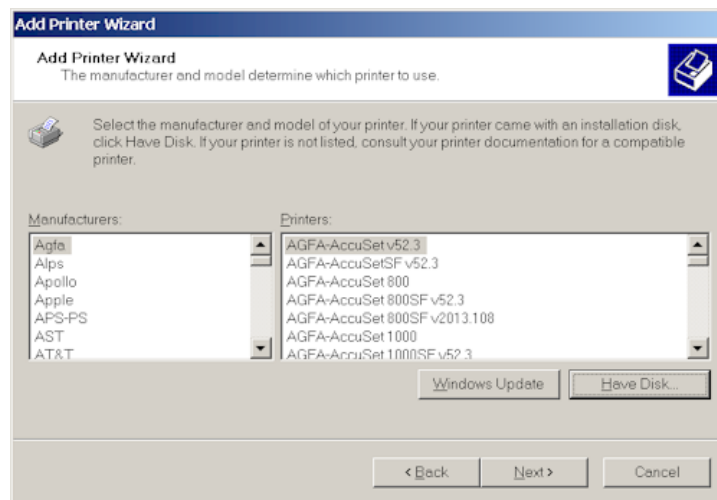

Figure 4, Printer Manufacturer
- The fourth page of the “**ADD PRINTER WIZARD**” will be displayed as shown in Figure 4. Click on **<HAVE DISK>**. This will bring up the “**INSTALL FROM DISK**” splash screen.